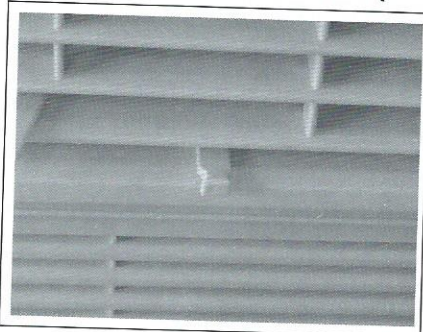

Figure 1 (VENT CLOSED)
1. Recirculate inside air - Vent Closed (See Fig.1)
A. Hold the Accordion Panel in one hand and gently pull back the center to free the open end. See Fig. 1.